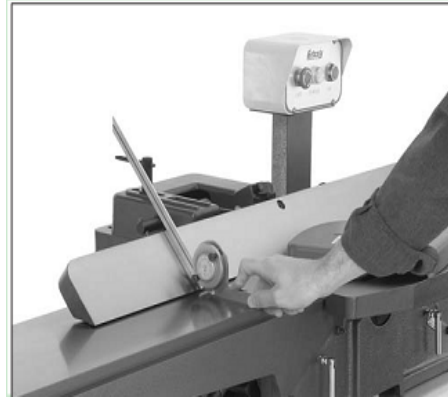

Figure 18
1. Using a sliding bevel adjusted to 135°, adjust the fence to the 135° (45° inward) position as shown in Fig. 18